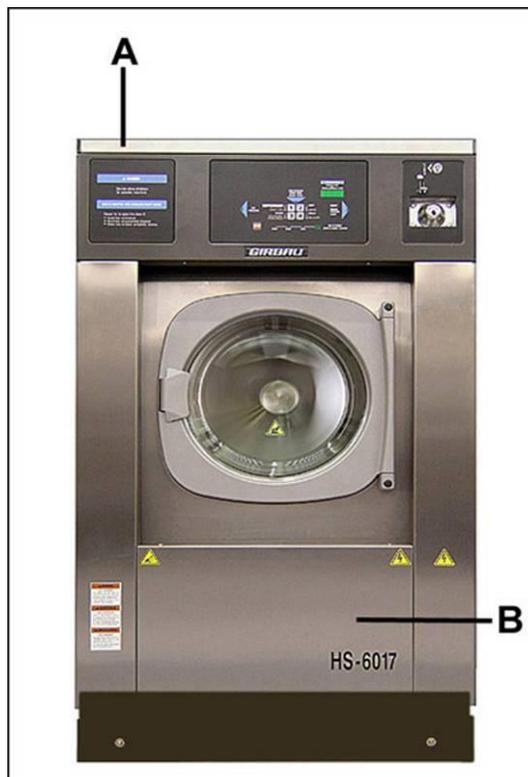

Fig. 3.4
1. Remove the machine's top cover **A** and bottom front cover **B** (Fig. 3.4).